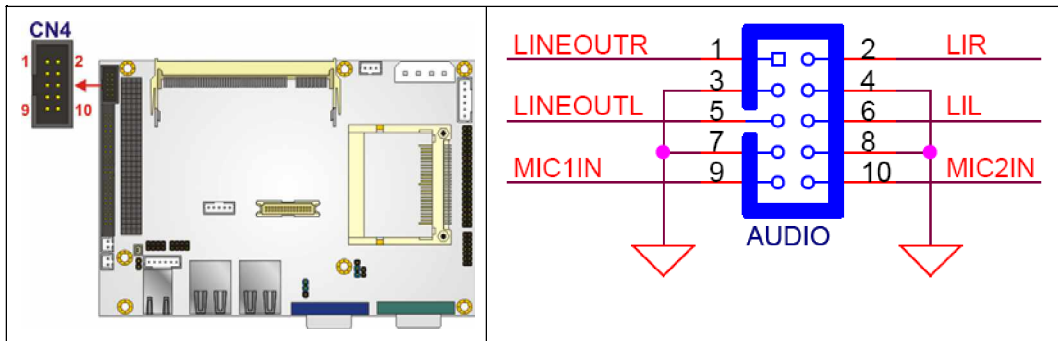

Figure 4-4: Audio Connector Pinouts
- CN Location:** See Figure 4-4